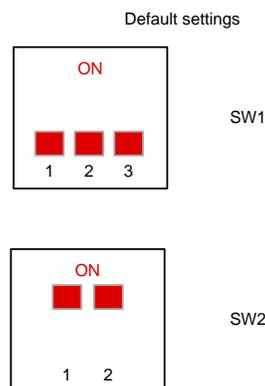

Figure 9. Software Configuration
3. Ensure the position of switches SW1 and SW2 are set to default setting as shown in Figure 9 to communicate to the PC GUI via SCI-A.